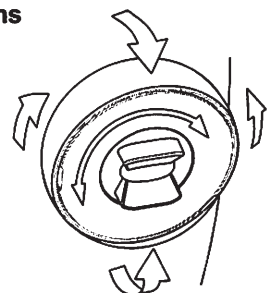

Fig 5
10. Adjust the lamp head and lens direction as per needs(see Fig 5).